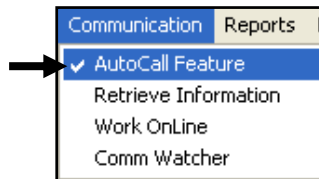

Fig. 8.1
- To enable the Auto Call feature, simply **select it from the Communication Menu** (Fig. 8.1). A check mark will appear next to the option when it is enabled. The safes will begin populating the database with information at the times you specified in the Configuration Menu setup process.